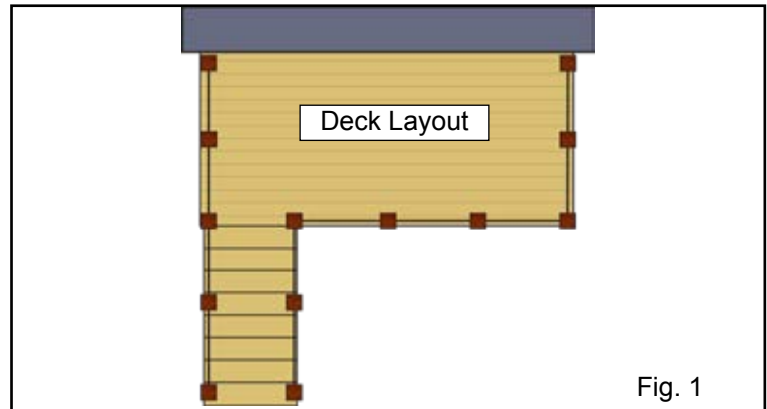

Fig. 1
- Take care to indicate the location of the railing and the posts on the deck and any stairs (See Figure 1).